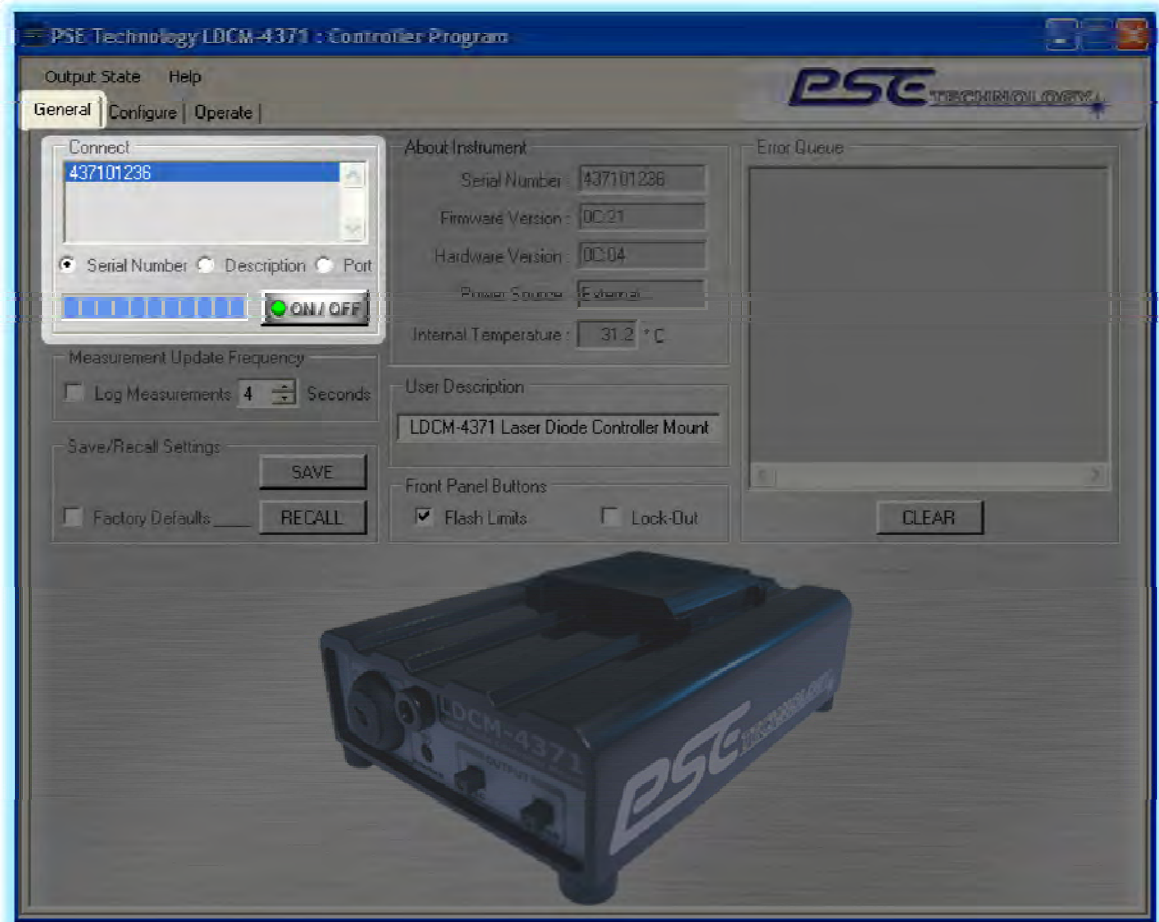

Figure 3.5: Attached Instruments Menu Screenshot
1. **Available Instruments:** By default the first instrument identified during the program initialization sequence is automatically selected in the Attached Instruments section as shown above in figure 3.5. The user can choose a specific attached instrument using the Instrument Selection list box. The selection can either be performed using the unique serial number assigned to each instrument, the user assigned instrument description, or the computer assigned communications Port. The instrument listing option, **Serial Number**, **Description**, or communications **Port** can be changed by selecting one of the three radio buttons below the select instrument list box.